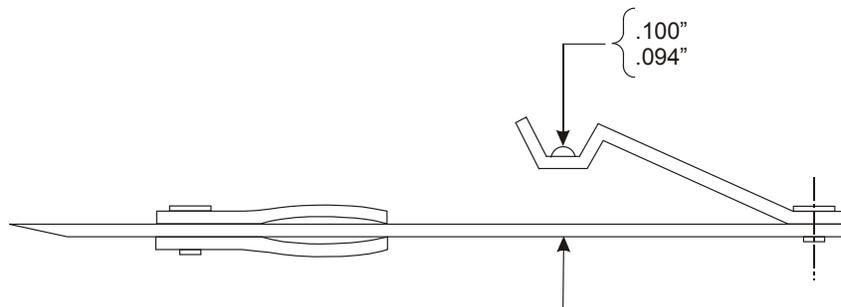

Figure 4-2. Heel Contact Springs
9. With the armature held in the mid-point position, with neither fronts nor backs making, check to see that the free play between the heel spring and the driver is 0.010" or less. If the free play is excessive, adjust the height of the clip as shown in Figure 4-2.